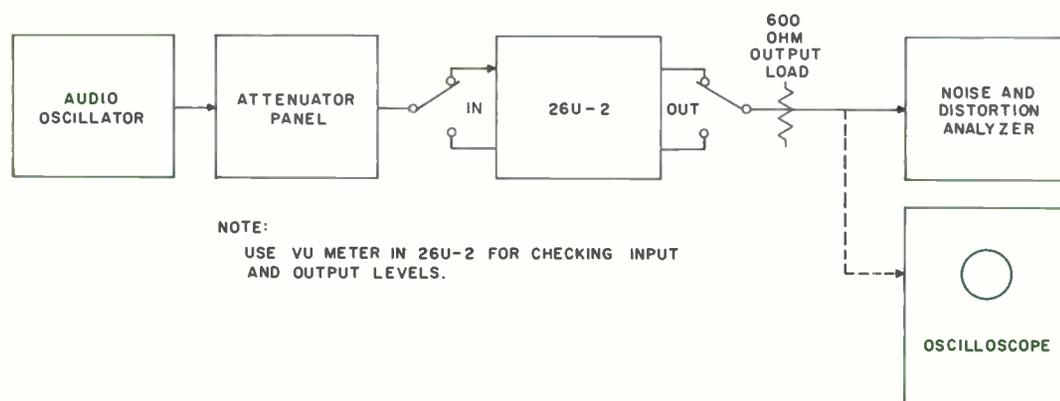
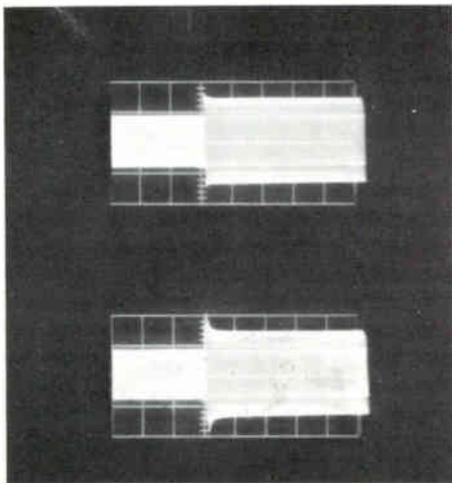
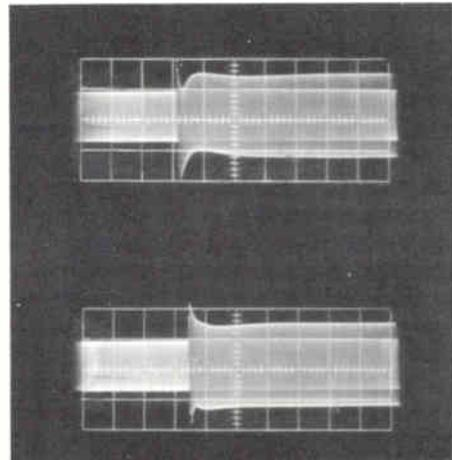

Figure 5-1. Test Setup, Block Diagram
Figure 5-2. 26U-2 Stereo Peak Limiter, Attack Time
Figure 5-3. 26U-2 Stereo Peak Limiter, Unbalancing
- e. Connect the audio oscillator to one input of the 26U-2 through the Daven attenuator panel with at least 10 db of attenuation inserted. (See figure 5-1.)
An oscilloscope may be used to check balance, if desired. Attach the oscilloscope to the amplifier output, and synchronize it to the 1000-cps input so several cycles can be observed. With the 26U-2 set on the verge of compression, remove 10 db of attenuation from the Daven attenuator panel, and observe the pattern. When the 26U-2 is balanced, the change in amplitude with increase will be uniform as shown in figure 5-2. While watching the attack time, switch 10 db of attenuation in and out. Set R12 (R112) for best point of balance. Figure 5-3 is a photograph of a 26U-2 unbalanced to both limits of R12 (R112). The input level was increased from 4 db below threshold to 6 db above threshold. Each division equals 50 milliseconds.
input signal. Set STEREO MONO switch to MONO (see figure 5-1). Set the 26U-2 on the verge of compression, suddenly remove 10 db of attenuation from the Daven attenuator, and observe the attack time. The attack time should be adjustable between 2 to 5 milliseconds with R52 (R152). See figure 5-2 for illustration of a typical unit for attack time. The top view was made with R52 (R152) set for fast attack time. The bottom view was made with R52 (R152) set for slow attack time. The photographs were made of the output level of the 26U-2 with an input change from 4 db below threshold to 6 db into compression. Each division equals 50 milliseconds.